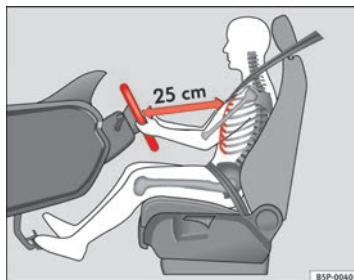

Fig. 137 Proper sitting position for driver
- Adjust the steering wheel until the correct position is set ⇒ fig. 137.
- Adjust the driver seat or steering wheel so that there is a distance of at least 25 cm between the steering wheel and your chest ⇒ fig. 137. If you fail to observe the minimum distance, the airbag will not protect you. Risk of fatal injury.